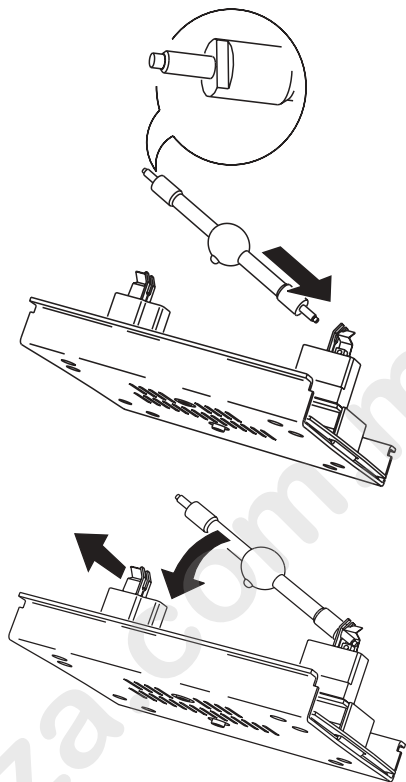

Figure 6: Lamp insertion
The ends of the lamp are profiled with special keys, as shown in Figure 6, to ensure proper installation. Do not use lamps with keys in a non-keyed SFC 10-4 socket.
- 5 See Figure 6. With the nipple on the bulb facing the back, insert the right end of the new lamp in the socket. Pull up on the left spring and snap the other end into place.